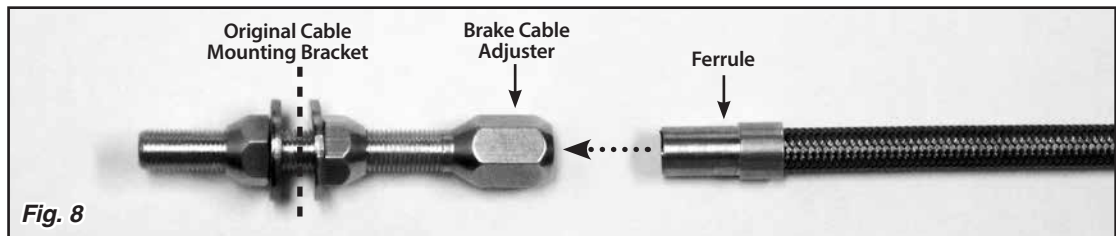

Fig. 8
**Step 6:** Insert the cable housings and ferrules into the brake cable adjusters on the cable adjuster bracket. **Fig. 8**